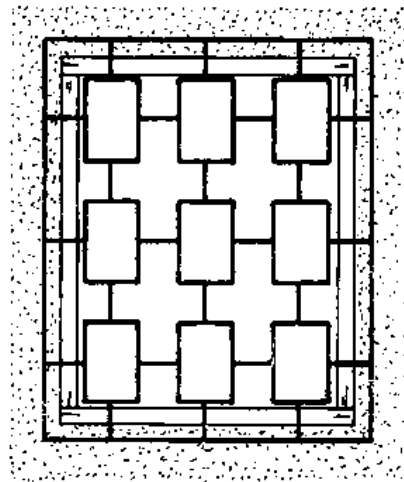

Fig. 2
- Sometimes burglar proofing is made from welded iron rods in different patterns and fixed directly into the wall around the window. It should be anchored well and deeply enough so that it cannot be pulled out (Figs. 2 & 2a).